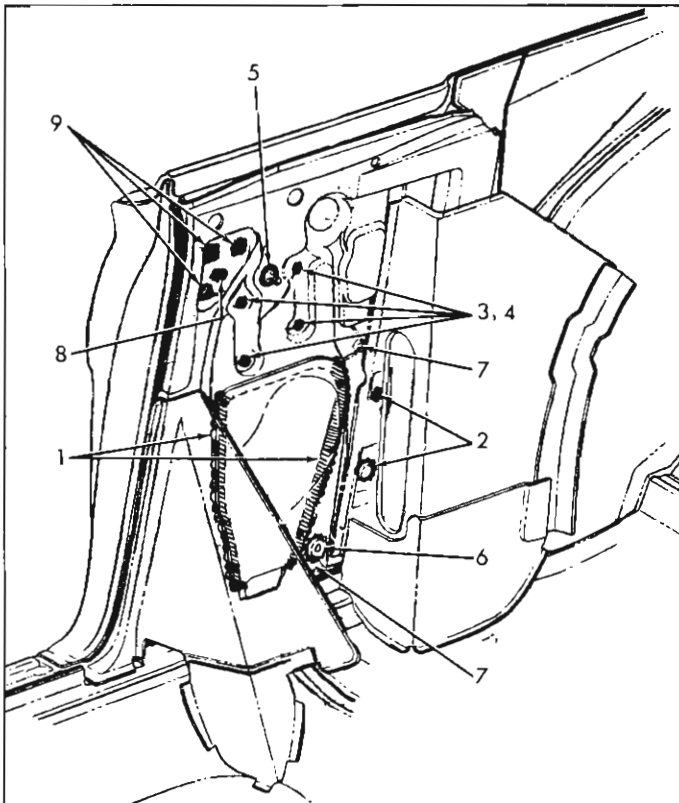

Fig. 24—Quarter Inner Panel Sealing "67" Styles
For "67" Styles - See Figure 24
**Item 9 for "67" Styles only (see fig. 24)**